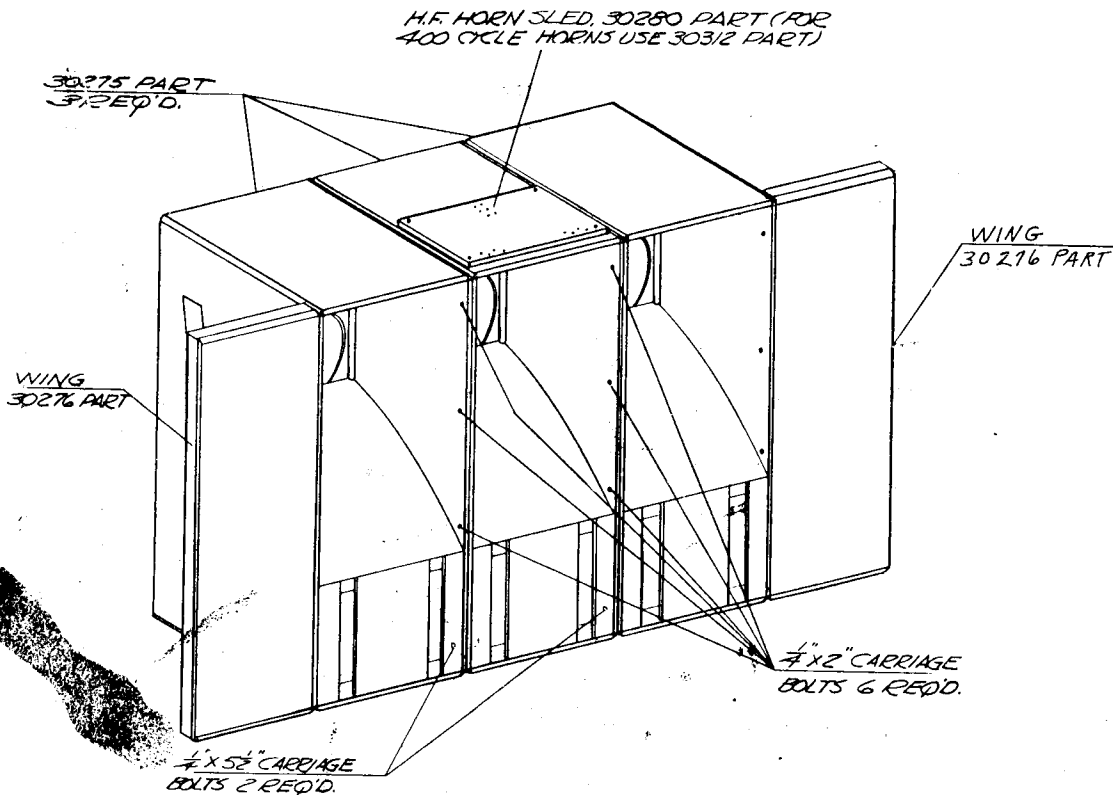

Figure 1. Front View of A1-X or A1 System
1. Place the cabinet(s), part number 9s) 30275, in their ultimate operating position. (See Figures 1, 3, and 5).
5. Secure each cabinet together using 1/4" x 2" and 1/4" x 5-1/2" carriage bolts in the front as shown in Figures 1, 3, and 5.